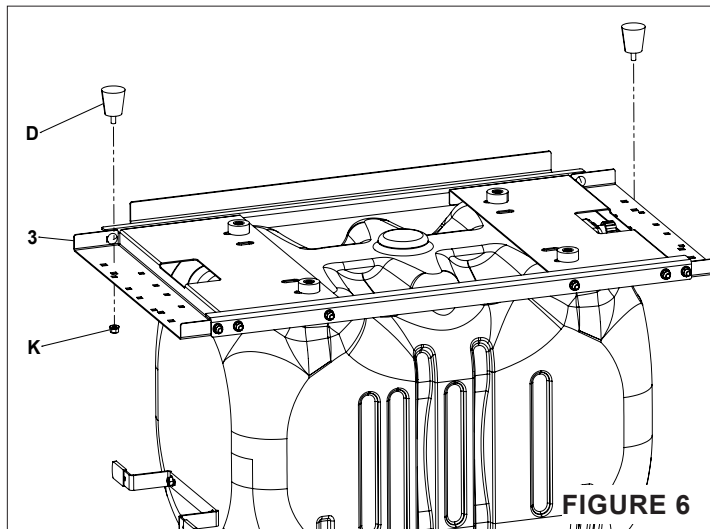

FIGURE 6
## STEP 6: (SEE FIGURE 6)
- Attach bumper rubber (D) to both sides under Gator tank support (3) using hex nuts (K) as shown in Figure 6.